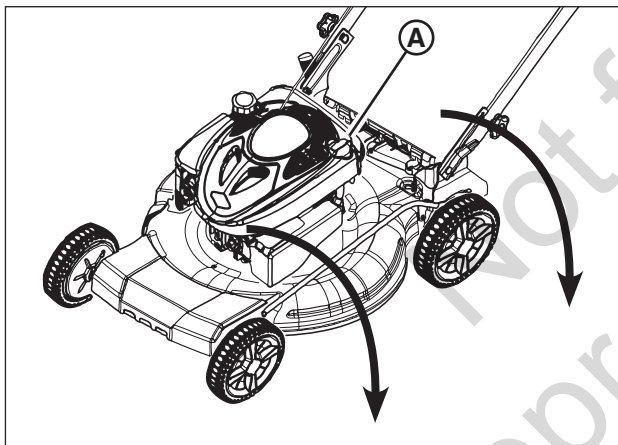

Figure 15: Draining the engine oil
2. Remove the dipstick (**A**, **Figure 15**), then turn the mower on its side. Allow the oil to drain from the oil fill tube into an appropriate container. Dispose of used oil properly.